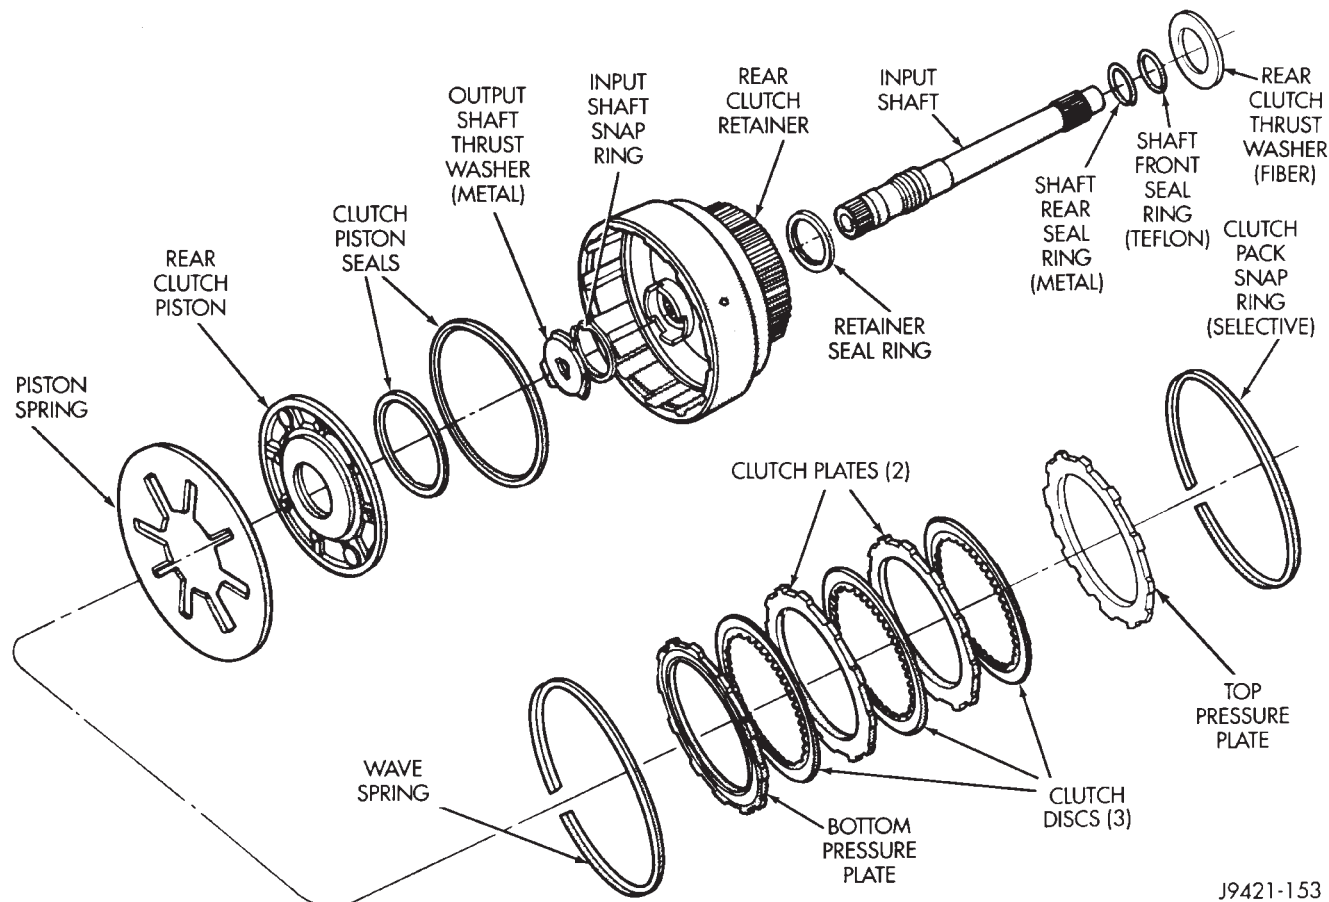
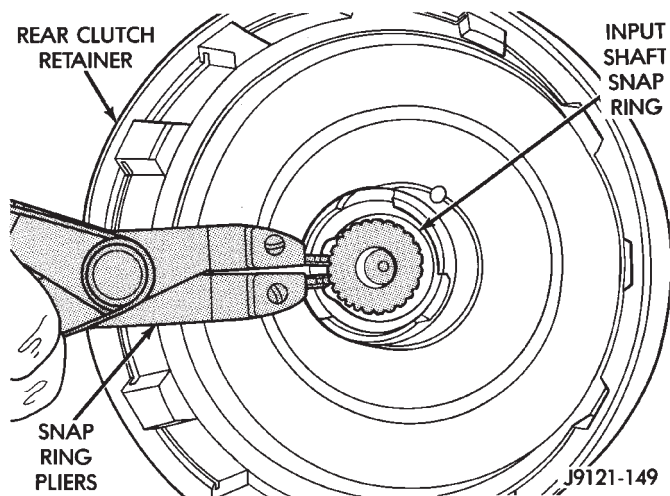

Fig. 65 Rear Clutch Components (30RH)
Fig. 67 Removing/Installing Input Shaft Snap Ring
- (1) Remove fiber thrust washer from forward side of clutch retainer.
- (2) Remove selective clutch pack snap ring (Figs. 65 and 66).
- (3) Remove top pressure plate, clutch discs, steel plates, bottom pressure plate and wave spring (Figs. 65 and 66).
- (4) Remove clutch piston with rotating motion.
- (5) Remove and discard piston seals.
- (6) Remove input shaft snap ring (Fig. 67).
(10) Install bottom pressure plate (Fig. 65). Ridged side of plate faces downward (toward piston) and flat side toward clutch pack.
(11) Install first clutch disc in retainer on top of bottom pressure plate. Then install a clutch plate followed by a clutch disc until entire clutch pack is installed.
- 3 discs and 2 plates are used in 30RH (Fig. 65)